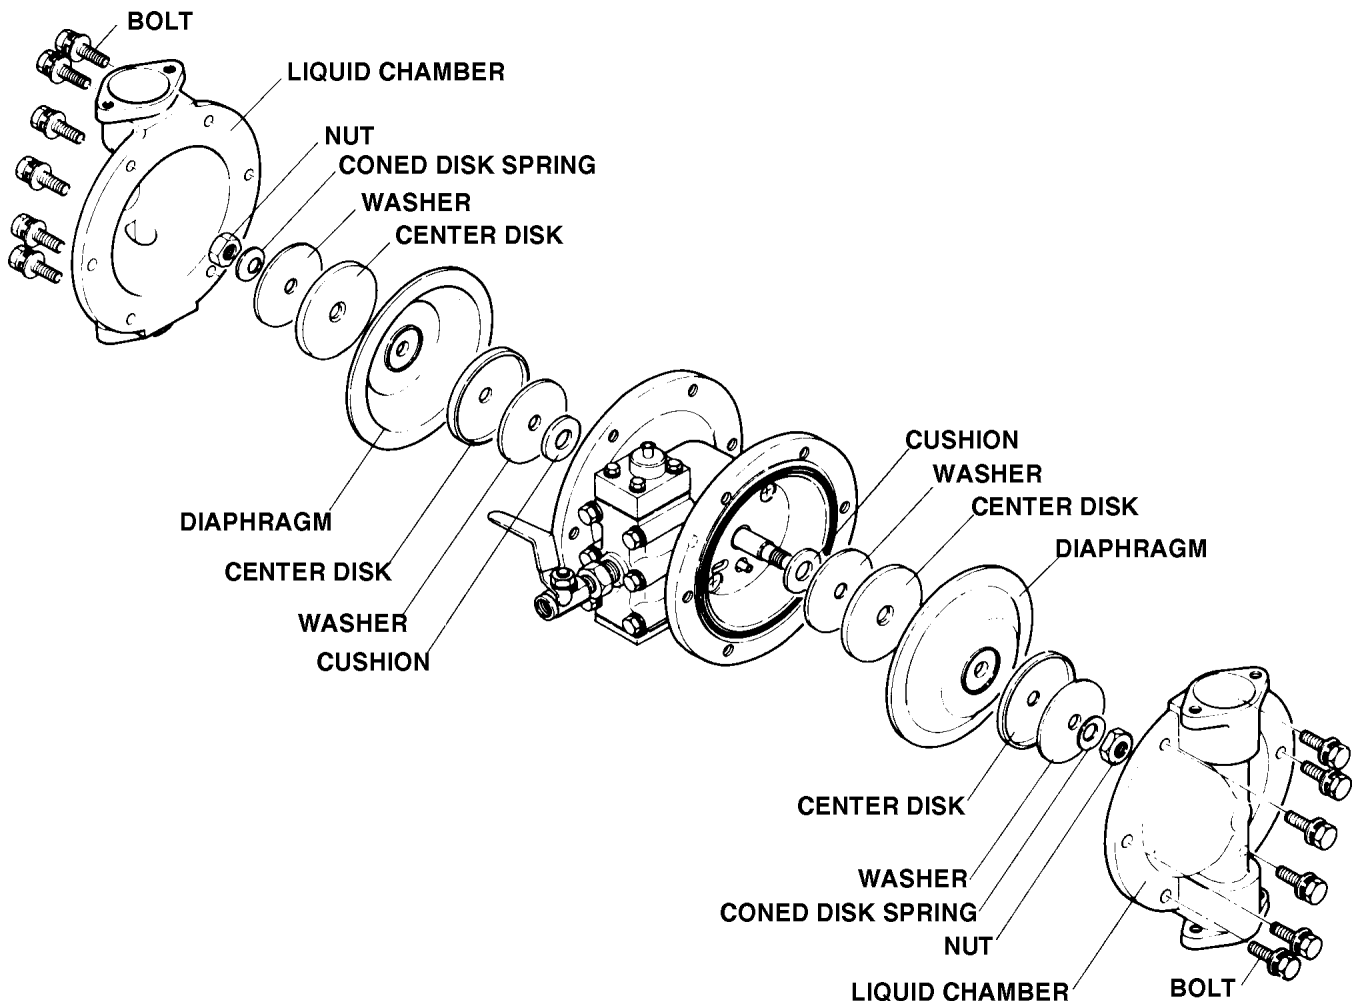

FIGURE 8. DIAPHRAGM ASSEMBLY REFERENCE
It is necessary that the outlet and inlet manifolds be removed before attempting to remove the chambers and their associated diaphragms. With the pump positioned in a clean work area, refer to Figure 8 and proceed as follows:
Refer to Figure 8 and Figure 9 for reference in the mounting of diaphragms. The diaphragms are mounted on the center rod, between the inner and outer center disks, as shown in the figures.
2. Refer to Figure 8 for parts sequence and slide the washer and center disk onto the rod, as shown.